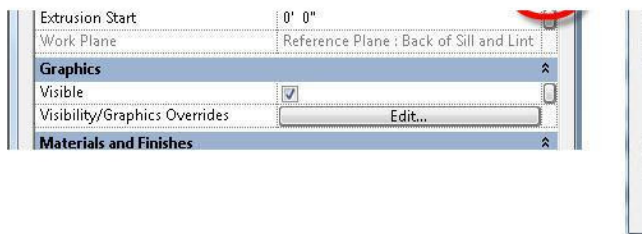

Figure 26. Linking the Extrusion End property to the Lintel and Sill Thickness parameter.
34. Click the button to the right of the Extrusion End property, select the Lintel and Sill Thickness parameter as shown in Figure 26, then click OK to return to the Element Properties dialog. The Extrusion End property is now linked to the Lintel and Sill Thickness parameter. Click OK to return to the Family Editor.